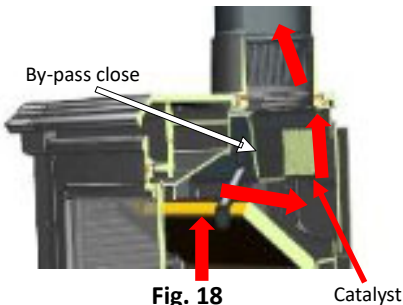

Fig. 18 Catalyst
5. When the fire is well established, slide the Burn Type Lever to the top for normal operation with wood ("A"). Then adjust the Burn Rate Knob to the desired heat output, either manually or with the remote control. If you have the TruHybrid System, close the by-pass to allow the flue gases pass through the catalyst (Fig. 18) to achieve the maximum efficiency of the stove. Protect your hands for such an operation. In addition, if you have an optional draft control (page 7), you can also regulate combustion by operating this control.